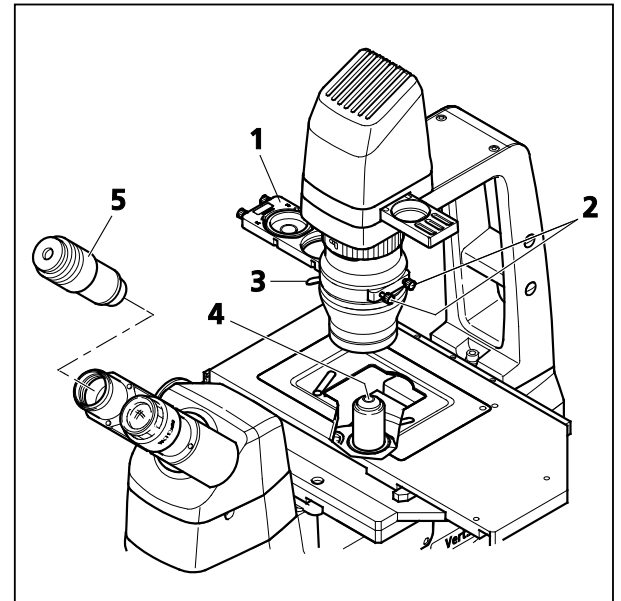
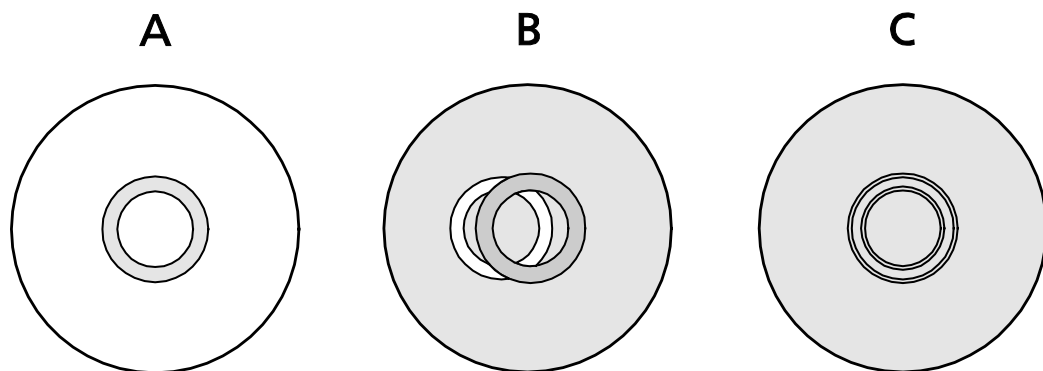

Fig. 4-3 Setting Phase Contrast
Fig. 4-4 Centering the Phase Ring Diaphragm (Bright in the Condenser) to the Phase Ring (Dark in the Objective)
- Rotate the objective for phase contrast (Fig. 4-3/4) into the light path.
- Open the aperture diaphragm (Fig. 4-3/3) of the condenser completely.
- Instead of the eyepiece, insert the auxiliary microscope (Fig. 4-3/5) into an eyepiece tube and render the phase rings of the objective visible by focusing its eye lens.
The phase ring of the phase contrast objective appears as a gray ring in the bright pupil (Fig. 4-4/A).
- Move the phase stop of the slider (Fig. 4-3/1) into the light path (or, on the condenser with modulator, rotate the position with the phase stop into the light path).
The phase ring of the objective will appear centered in the field of view, while the bright phase stop may be off-center (Fig. 4-4/B).
- Use the relevant centering screws (Fig. 4-3/2) on the slider to line up the phase ring and the phase stop. Make sure that the gray phase ring of the objectives fully covers the bright phase stop (Fig. 4-4/C).